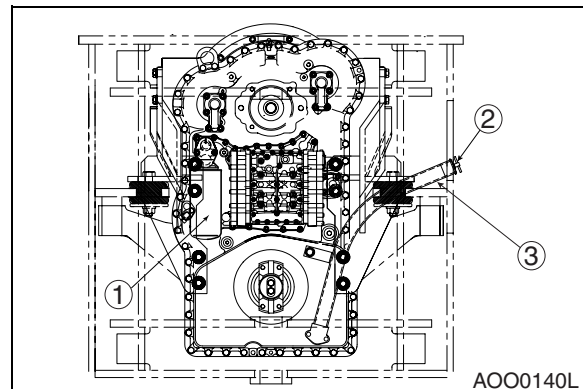

Figure 74
8. Rotate filter (1, Figure 74) counterclockwise to remove it.
11. Thread filter onto filter head. Tighten filter 1/2 turn after filter gasket contacts filter head. Filter should be torqued to 1.6 - 2.1 kg.m (11.5 - 15 ft lb.) (Figure 74).
12. Fill transmission with fluid through fluid supply pipe (3, Figure 74). Add fluid until fluid level reaches low mark on dipstick (2, Figure 74).